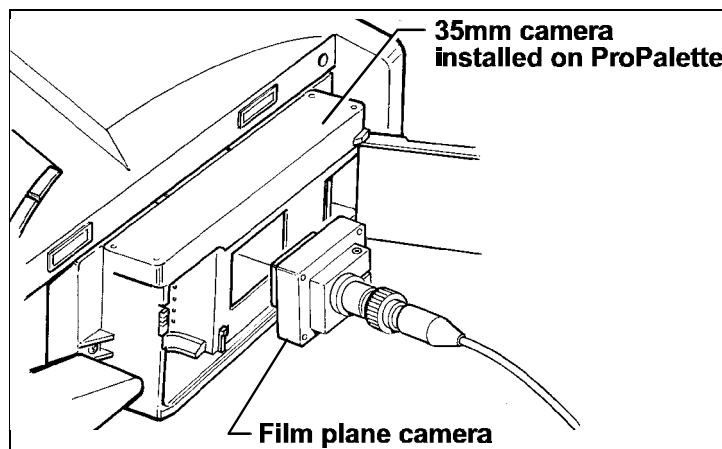

Figure 5-33. Installing film plane camera on 35mm camera back
2. Insert the film plane camera into the camera back and hold it in place (Figure 5-33).